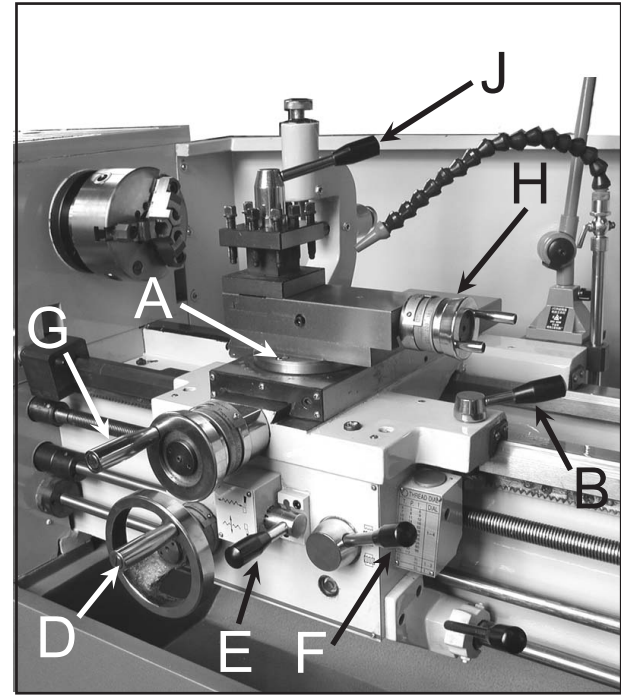

Fig. 14
8. Compound Lock (A, Fig. 14) - hex socket screw located on left side of compound. Turn clockwise to lock and counter-clockwise to unlock.
9. Carriage Lock (B, Fig. 14) - lock handle located on top of carriage. Turn clockwise to lock. Turn counter-clockwise to unlock.
10. Longitudinal Traverse Hand Wheel - (D, Fig. 14) - located on the apron assembly. Rotate hand wheel clockwise to move the apron assembly toward the tailstock. Rotate the wheel counter-clockwise to move the apron assembly toward the headstock.
11. Feed Selector (E, Fig. 14) - located in the center front of the apron assembly. Pushing lever to the left and down activates the crossfeed function. Pulling lever to the right and up activates the longitudinal function.
12. Half Nut Engage Lever (thread cutting) (F, Fig. 14) - located on front of the apron. Move the lever down to engage. Move the lever up to disengage.
13. Cross Traverse Handwheel (G, Fig. 14) - located above the apron assembly. Rotate clockwise or counter-clockwise to move, or position.
14. Compound Rest Traverse Handwheel (H, Fig. 14) - located on the end of the compound slide. Rotate clockwise or counter-clockwise to move, or position.
15. Tool Post Clamping Lever (J, Fig. 14) - located on top of the tool post. Rotate counter-clockwise to loosen and clockwise to tighten.